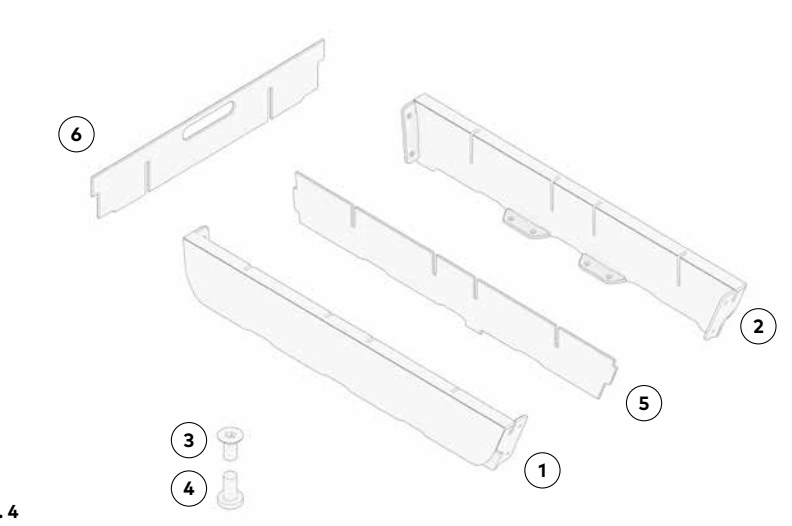
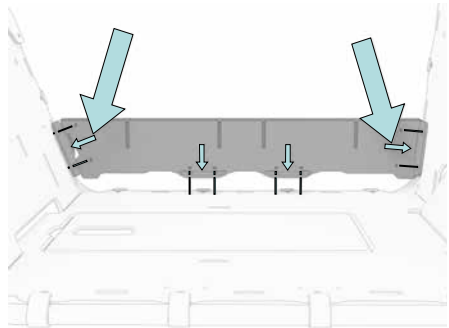

Fig. 4
Fig. 6
The tension on each strap must not exceed 150 N (approx. 15 kg). Exceeding this tension may cause damage (= plastic deformation) to the aluminum frame. If the load is attached only to the lightweight panel (Fig. 6), the maximum tensile stress is 100 N (approx. 10 kg).
Each side panel is fixed using eight (8) M5 screws and M5 sleeve nuts through the holes in the plastic plates. First at the front and back, then at the holes provided in the base plate (Fig. 6). The screws are screwed on from the rear using the sleeve nuts supplied and tightened to 4–5 Nm (Fig. 4, pos. 3 and pos. 4). Finally, check that the side panels are tight and secure.